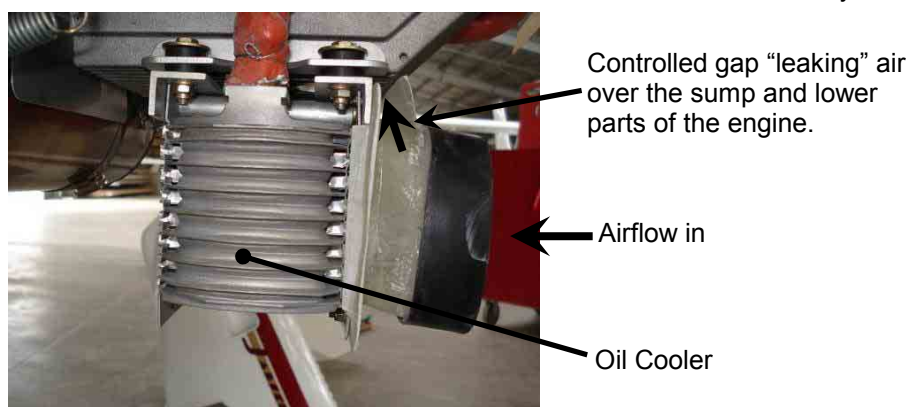

Figure 54. Oil Cooler Duct Design
- Section 13.1 noted that air leaking through gaps in the cooling system ducts is generally waste air, not contributing to cooling – though it noted that there were exceptions to this rule. Oil cooling is the feature of engine installations that is most often improved by "leaks" like this. A controlled amount of free air blowing over the sump, crankcase and underside of the engine can significantly improve oil temperatures (Figure 54 shows a duct of this type fitted to a Jabiru 6-cylinder engine). However, for this to work the cowl installation must be able to cope with the extra volume of air flowing into the cowl space – the outlet area or outlet lip size may need to be increased to suck out the extra volume.